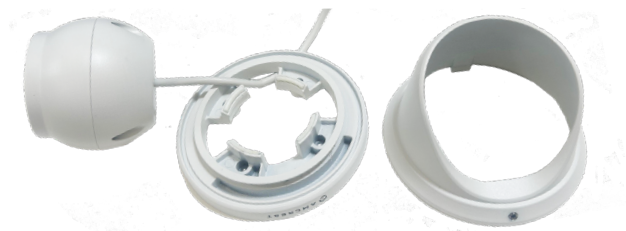

Fig. 3.20
16. This separates the camera assembly from its housing (Fig. 3.20).